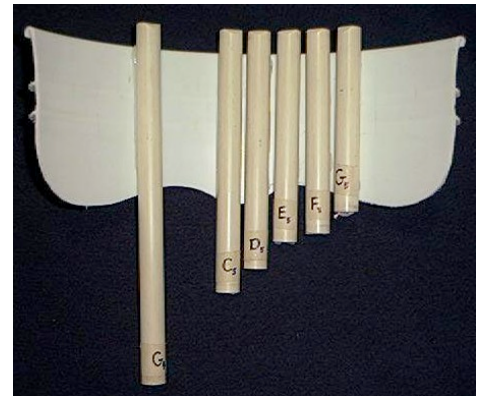

Fig. 1 Six-note pan pipes glued to a rigid frame
- (1) A tube-length template can be made from a section of 3/4" CPVC tubing with an end cap glued on one end. Holes are drilled through the wall of this tube so that they can be used to mark the correct lengths of 1/2" pan-pipe tubing when inserted into the larger tube. The length of the 3/4" tube is that required to mark the longest pipe. In practice, the shortest tubes should be cut first so that they are more easily marked. Use of this template can be used to demonstrate a method for simplification of the fabrication process.
- (2) A slight bevel at the top edge of the pipe, as shown in Figure 1, may improve sound quality. A flat file may be used to produce the bevel. Some experimentation is required. Make sure to remove any plastic debris that may result.
- (3) A more finished instrument can be produced by attaching the tubes to a rigid frame. A slight curvature of the frame is desirable for easier note changes. Possible frame materials include sections cut from the side of 5-gallon plastic buckets (e.g., joint compound buckets).
- (4) Sample table values and frequency vs. cork position plots are shown below.